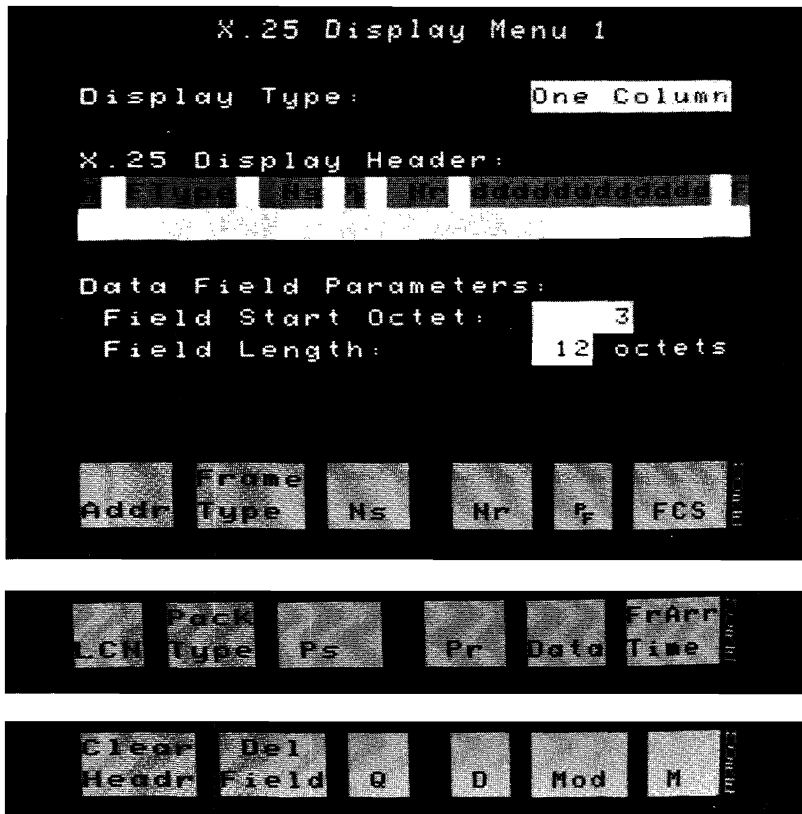

Figure 3-8. X.25 Display Header Selections
- b. Define the header information. See figure 3-8. Use softkeys to select fields for header definition. Fields are displayed in half bright video in the header block at cursor position. Spaces between fields must be entered by you (use arrow key) if you desire them. Fields can not extend past end of line. You may overwrite a field by placing the cursor over that field and selecting another field.
The entire header can be cleared using the Clear Header softkey. The fields can be deleted by using the Delete Field softkey. See figure 3-8 for a complete list of the header fields and information.